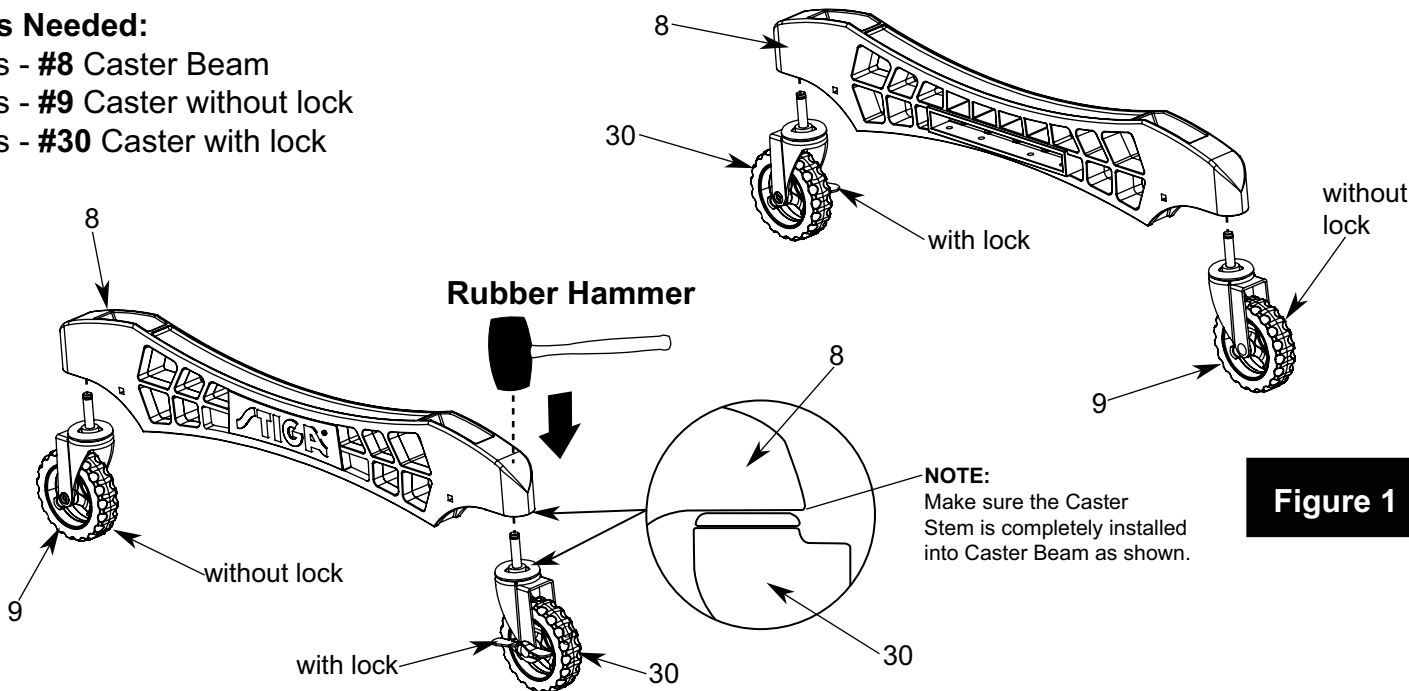

Figure 1
- Slide a Caster Wheel **with** Lock (#30) into Caster Beam as shown in **FIGURE 1**. On the other end of the Caster Beam attach a Caster Wheel **without** Lock (#9). Make sure you have one Caster Wheel with lock and a Caster Wheel without lock for each Caster Beam. Repeat this step to attach the Casters to the second Caster Beam.